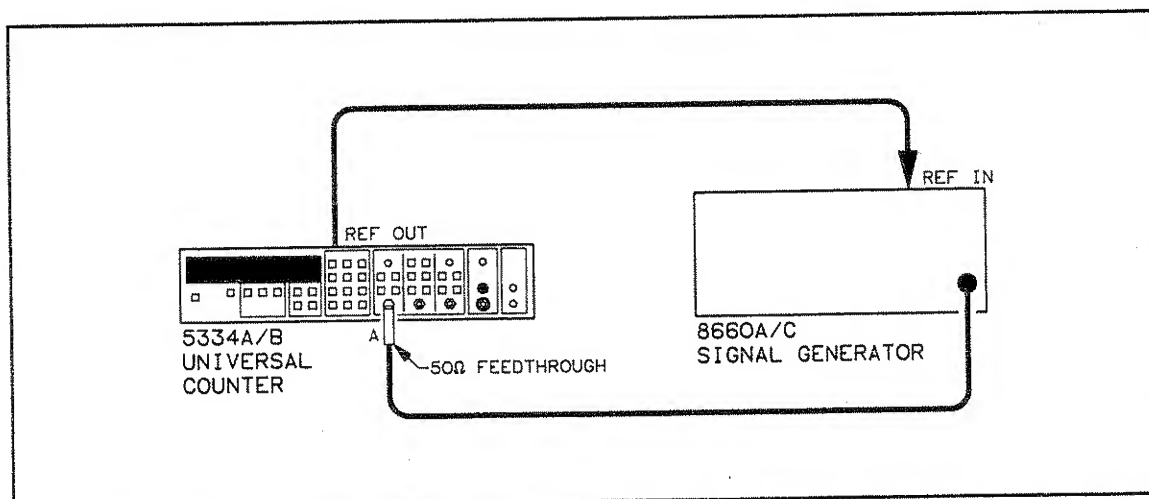

Figure 4-8. Period A Test Setup
3. Connect the signal generator output to the HP 5334A/B Input A using a 50 Ohm feedthrough connector as shown in Figure 4-8.